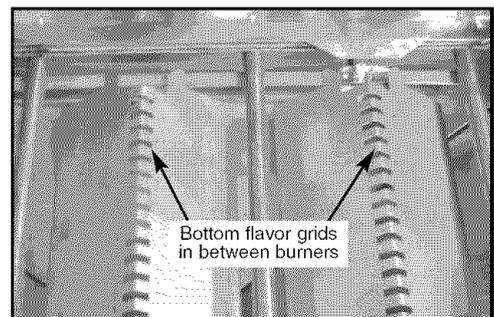

Fig. 4
1. Install the bottom flavor grids in the lower cutouts and around the igniters. (See Fig. 4)